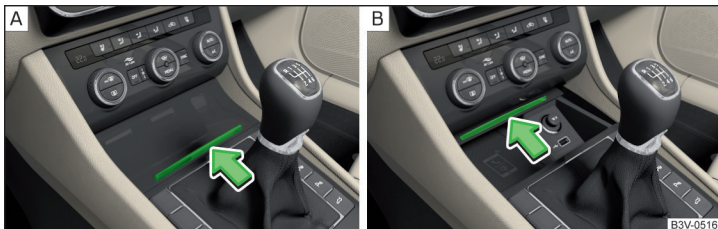

Fig. 108 Storage compartment: Open/close
- » To **open**, press the ridge in the direction of arrow » Fig. 108 - **A**.
- » To **close**, press the ridge in the direction of arrow » Fig. 108 - **B**. The lid closes automatically.